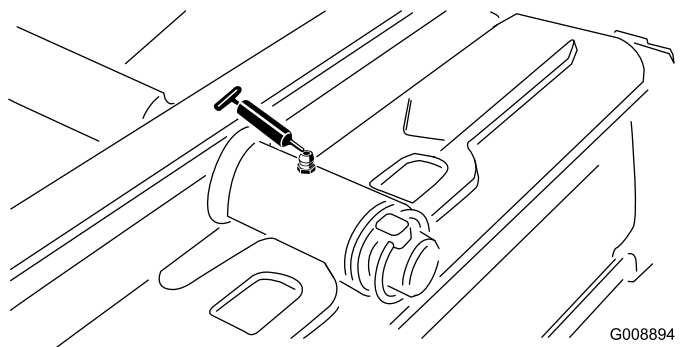

Figure 49
- Rear cutting unit pivot (Figure 49)